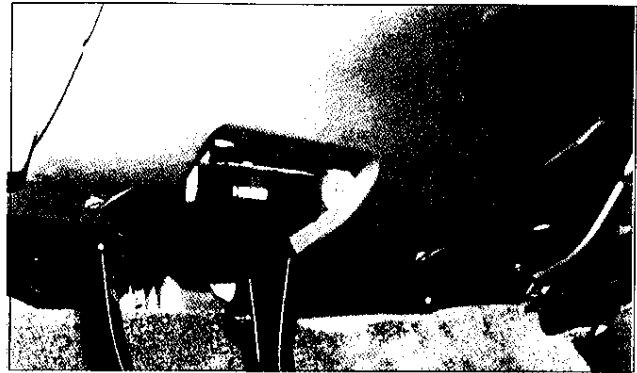

Fig. 22
- To ease harness installation and connections, remove the three screws retaining the dashboard panel below the steering wheel and remove the dashboard panel (Fig. 22).